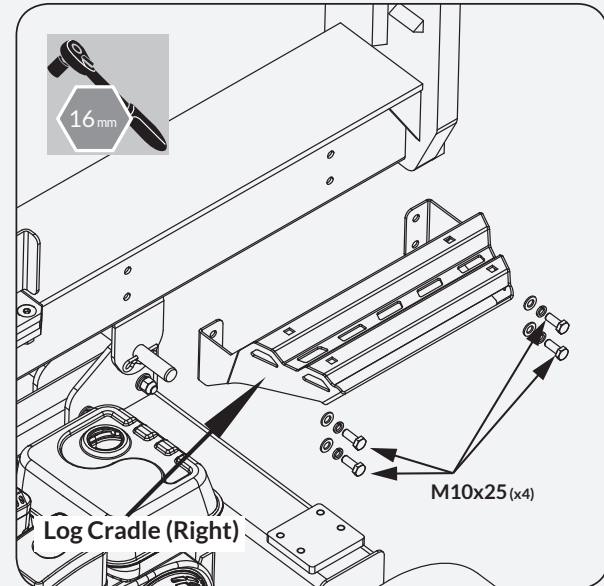

Figure 12a
1. Remove the right log cradle before assembling the log lift table attachment. (See **Figure 12a**)